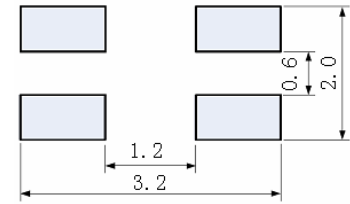

Fig.4-5
- d) Recommended PCB pattern for reflow soldering: See **Fig. 4-5**.